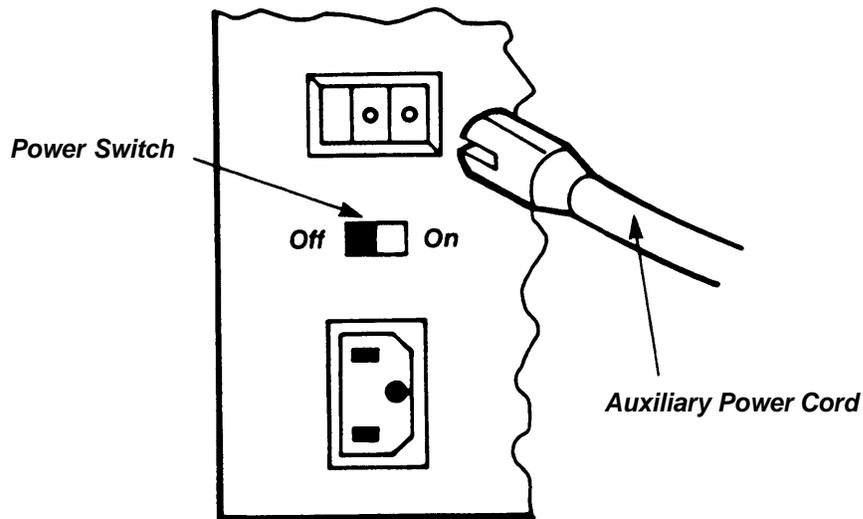

Figure 3.
2. Turn the control unit power **off**. If you have an auxiliary power supply, unplug the auxiliary power cord from the control unit before inserting the 2-Line/5-Voice Terminal Module (Figure 3).